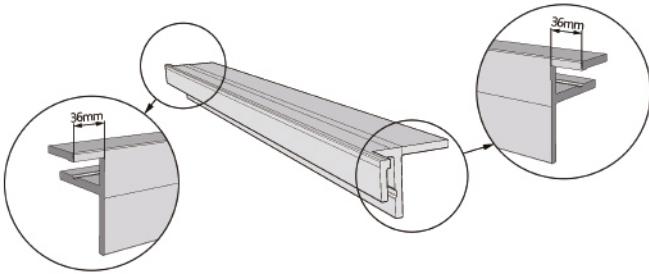

Fig19
3. Determine (cut) the size of HLYC-014F according to the size of the doors and windows. As shown in Figure 19: